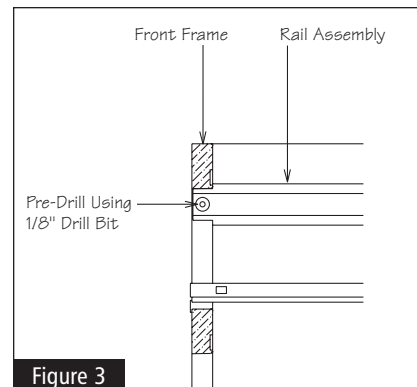

Figure 3
- 4** • Attach chopping block or cutting board rail assembly to front frame using (1) 5/8" X #7 screw, pre-drilling first with an 1/8" drill bit, 3/8" deep (see Figure 3).